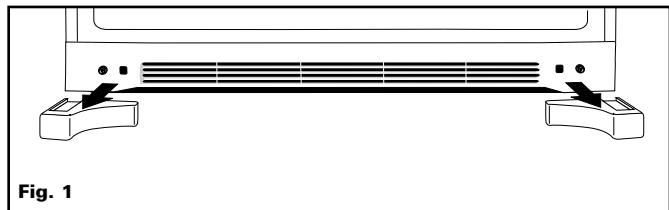

Fig. 1
- Remove the lower hinge covers (see fig. 1). To do this, grasp each cover near the hinge and apply pressure. The attachment tabs will snap out, allowing removal of the covers.